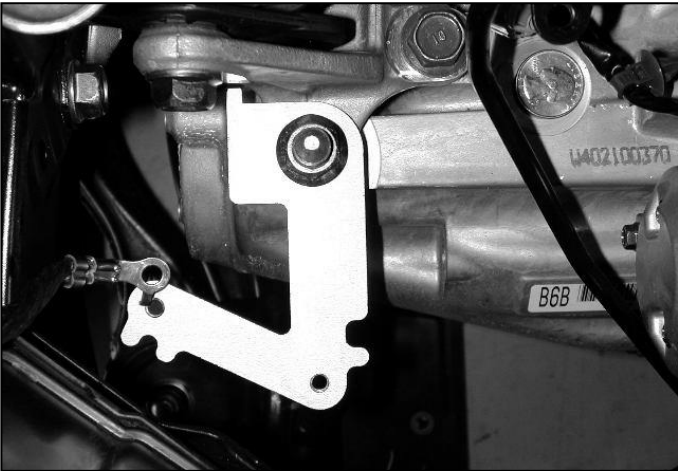

Fig. 9
- b. Remove the transmission mount bracket nut closest to the front of the car. Install the supplied transmission bracket over the stud and replace the nut. Refer to the picture for correct orientation. Torque the transmission mount bracket nut to 54 N-m (5.5 kgf-m, 40 lbf-ft). **(Fig. 9)**